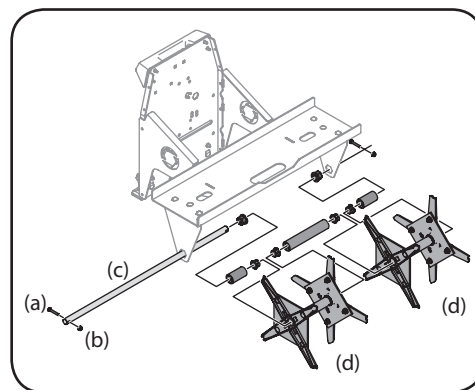

Figure 5-4
2. Remove the hex bolts (a) and nuts (b) on each end of the axle (c), and carefully remove the axle from the center, to access the aerator assembly (d). See Figure 5-4.